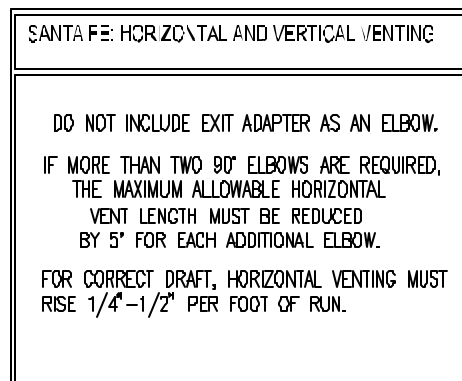

Figure 7
- Maximum rise to run = 1 to 5 (refer to Figures 7 & 8)